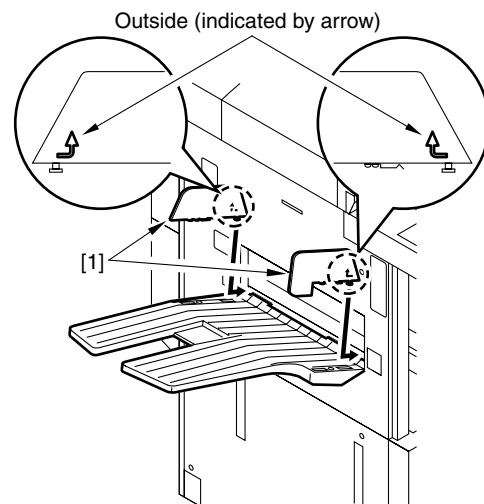

Figure 2-13
- 20) Mount the side guide plates (front, rear) [1] that come with the copy tray unit. At this time, be sure that they are oriented as shown in Figure 2-13.